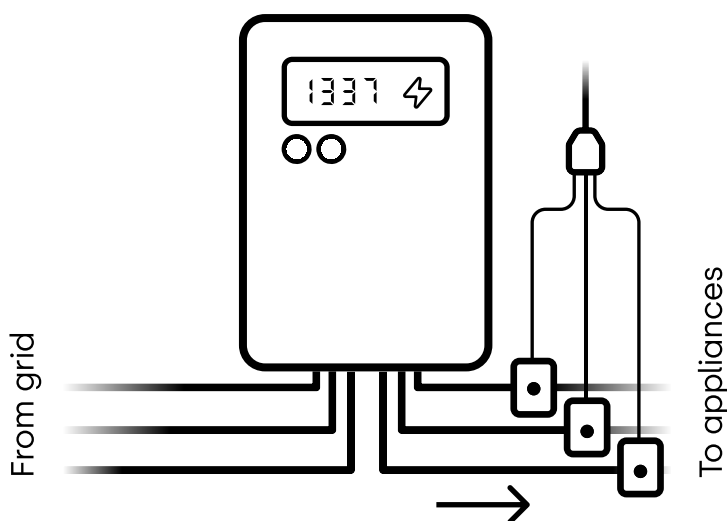

Fig 1. Connection diagram for 3-phase system
5. If you have a **1-phase system**, attach the clamp marked L1 to the cable and leave L2 and L3 unconnected. If you have a 3-phase system, attach clamps L1, L2 and L3 to the corresponding cables. See figures 1 and 2.